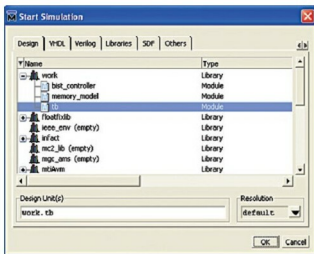
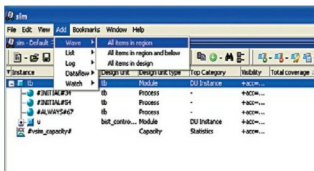

Fig. 10: Library tab
Fig. 11: Add wave to the project
2. Now, in the work library, select **tb** and click **OK** (Fig. 10). This will open **sim** default window as shown in Fig. 11.